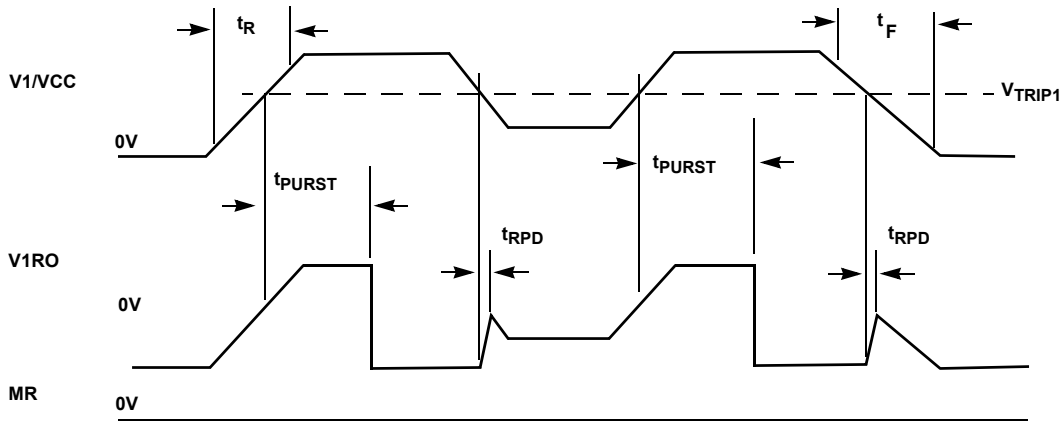

FIGURE 30. POWER-UP AND POWER-DOWN TIMING
**V1RO, V2RO, V3RO Output Timing.** (See Figure 30, Figure 31, Figure 32)